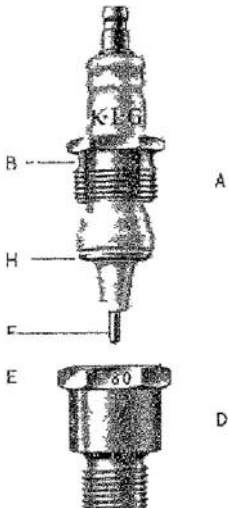

FIG. 44. DETACHABLE TYPE SPARKING PLUG (K.L.G.)
To Clean K.L.G. and Lodge Plugs. Fig. 44 shows a typical detachable type (K.L.G.) sparking plug dismantled for thorough cleaning. To dismantle a detachable-type plug, grip the smaller hexagon on the gland nut (B) in a vice, with the plug upside down. Be most careful not to exert any pressure on the hexagon faces. Then with the plug box-spanner, or a suitable ring spanner, unscrew the large hexagon (E) on the plug body. Alternatively use two spanners to unscrew the gland nut from the plug body. The centre electrode (F) with its insulation, comprising the insulated electrode assembly (A), can now be detached from the gland nut. Take care not to lose the internal sealing washer (H).
To clean the metal parts (plug body and gland nut), wipe them clean with petrol, or, if necessary, scrape off the deposits with a small knife, or use a wire brush. Afterwards rinse the parts in petrol. The gland nut seldom gets very fouled, but the inside of the plug body may be very dirty, and the same may apply to the internal threads of the plug. Clean and polish the points (see Fig. 44) of the centre and outside (earth) electrodes (F) and (G) with some fine emery-cloth.